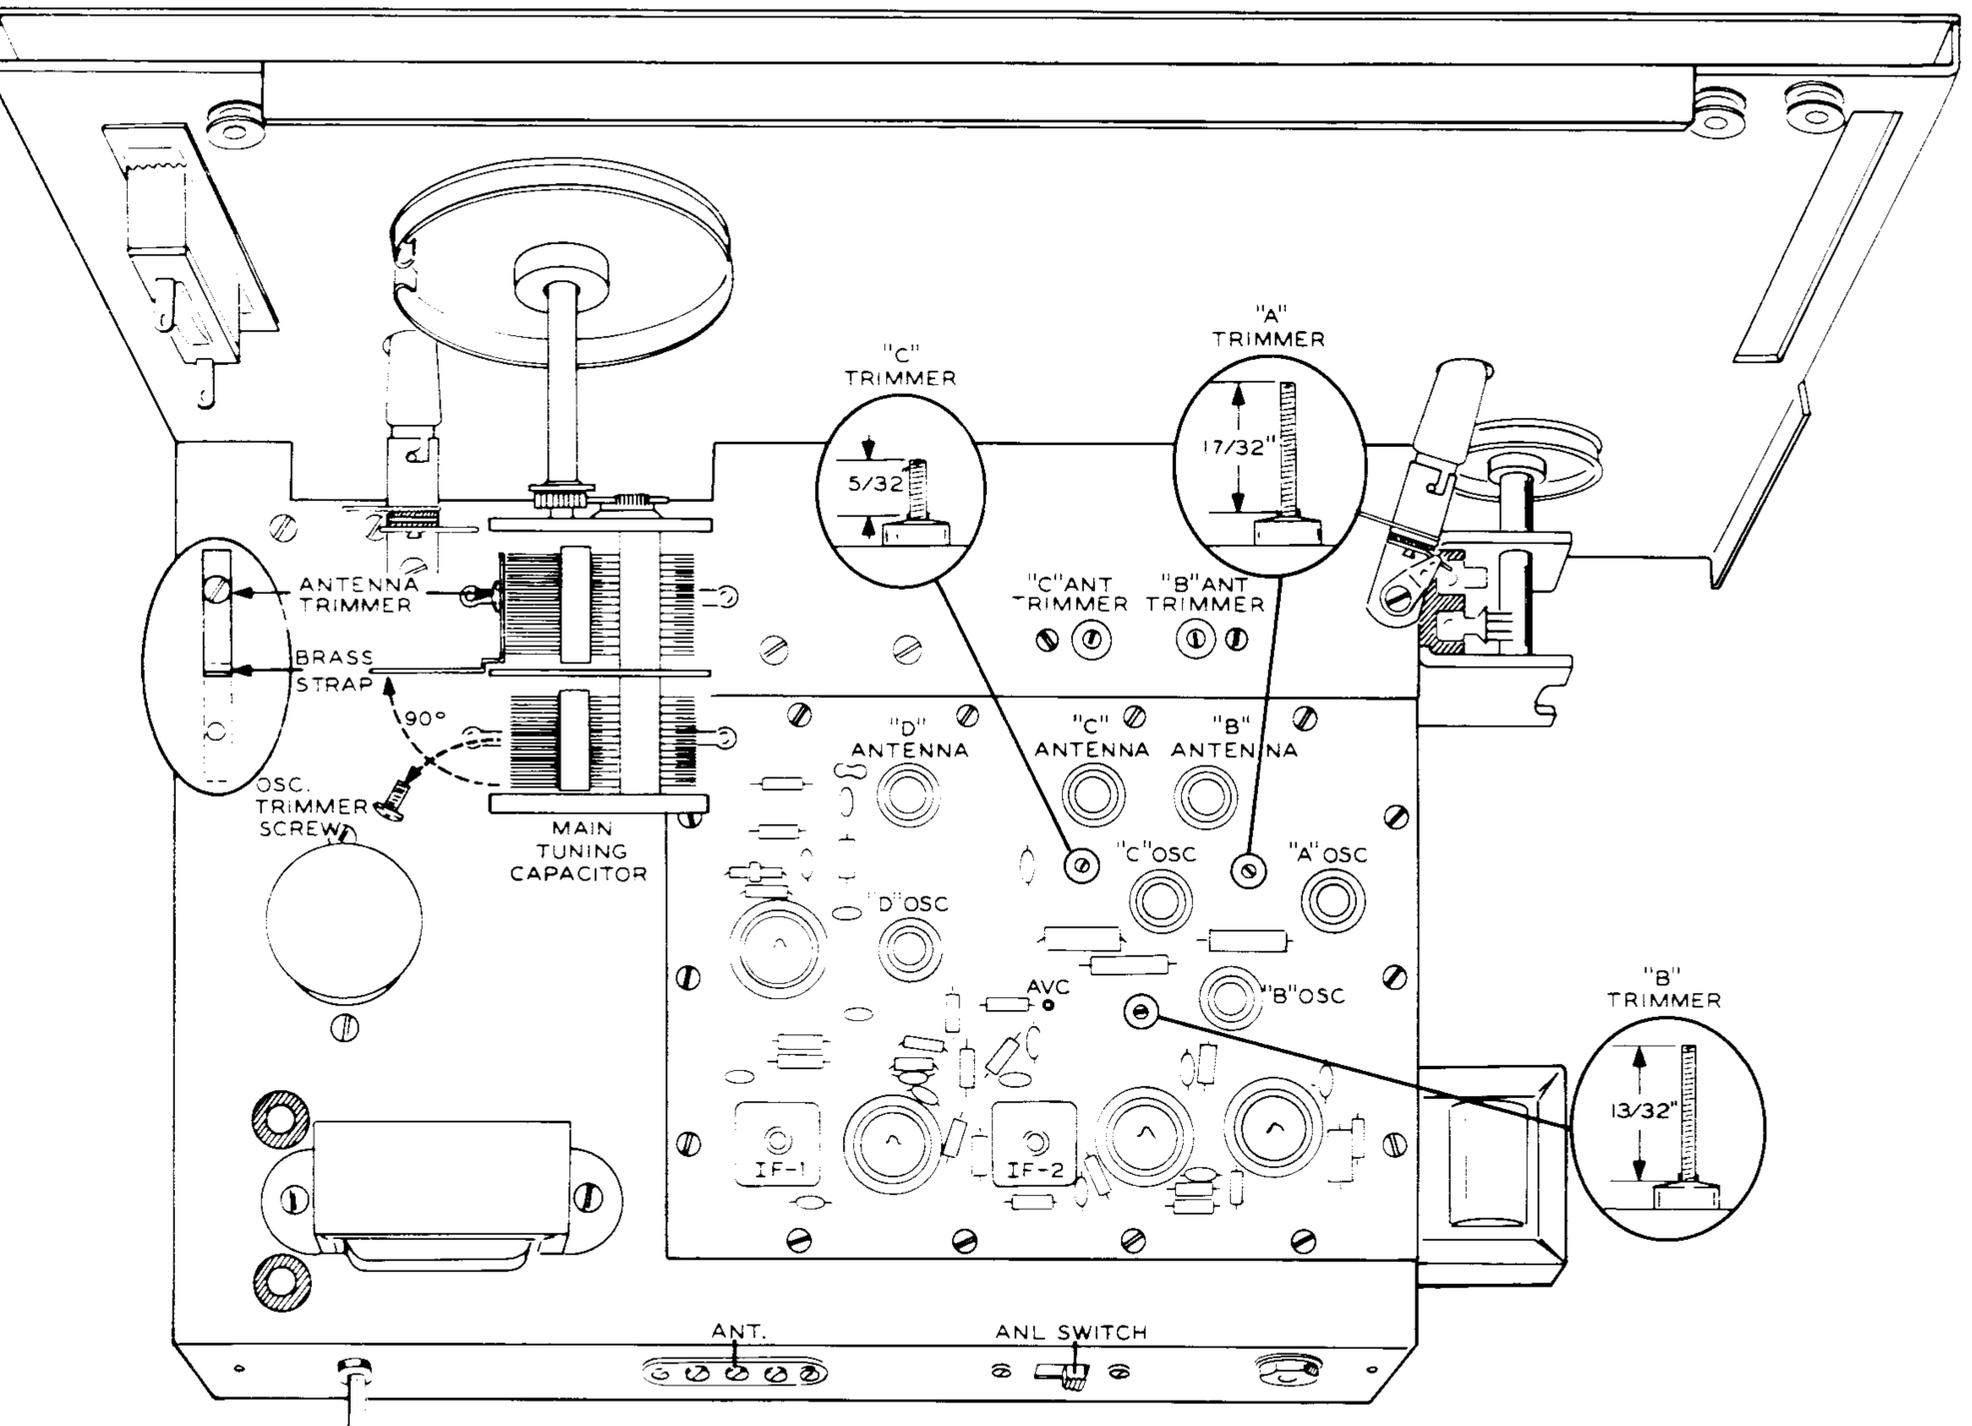

Figure 3
Refer to Figure 3 for the following steps.
- () Preset the adjusting screws in the A, B, and C TRIMMERS as shown in Figure 3.